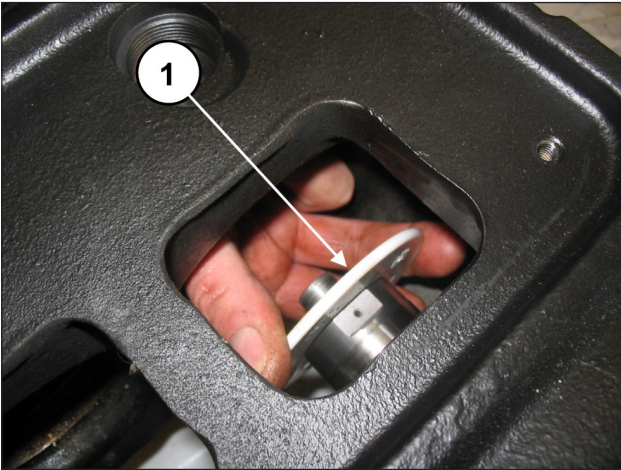

Fig. 156
Slip the spray-guard rings off the piston heads (pos. ①, Fig. 156).